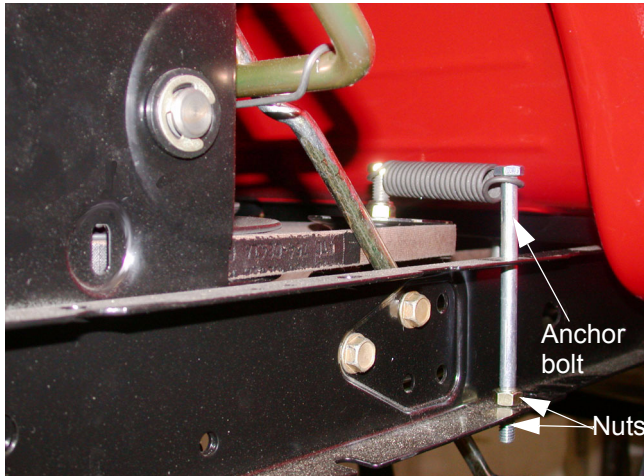

Figure 11.6
- 11.6. Disconnect the spring from the anchor bolt on the left side of the tractor using a spring puller or a small piece of rope. See Figure 11.6.